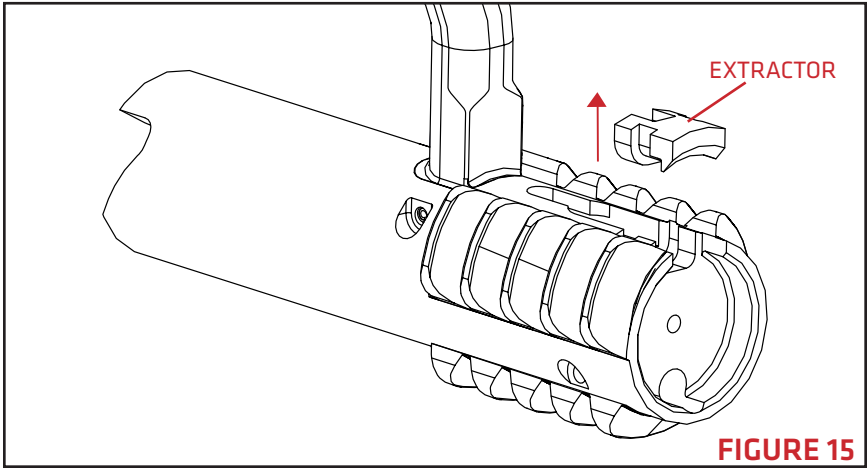

FIGURE 15
3. Lift the extractor out of its recess in the bolt (**FIGURE 15**).